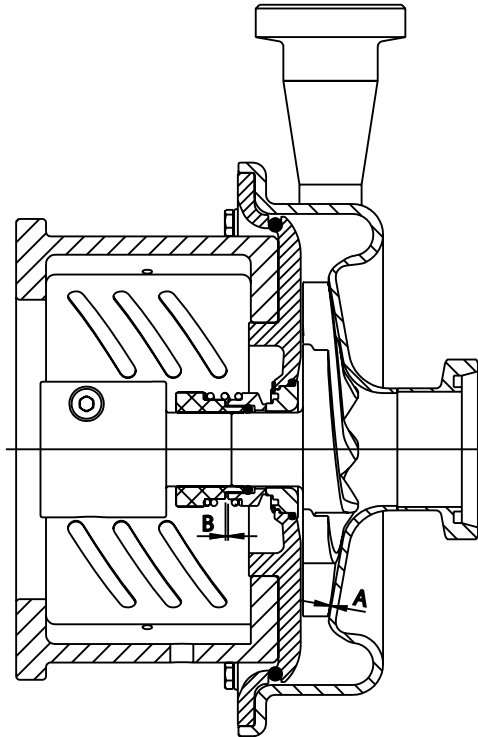

**Fig. 3.4.10**
After installation of the impeller, proper gap "A" between the impeller and the front casing has to be set (Fig. 3.4.7 – 3.4.9). Loosen the shaft screws [161] and using the spacer ring tool set the proper gap (A). Using the feeler (gap) gauge set the appropriate gap (B) between the retainer and the rotary seal part to adjust initial tension of the mechanical seal spring (Fig. 3.4.10).